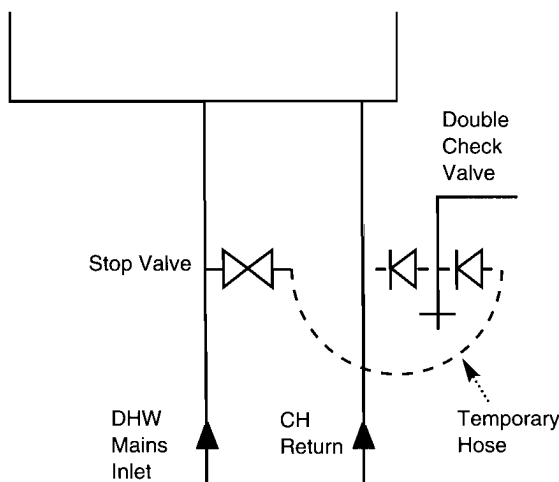

Fig. 3
4. The sealed primary circuits may be filled or replenished by means of a temporary connection between the circuit and a supply pipe, provided a 'Listed' double check valve or some other no less effective backflow prevention device is permanently connected at the inlet to the circuit and the temporary connection is removed after use (Fig. 3).